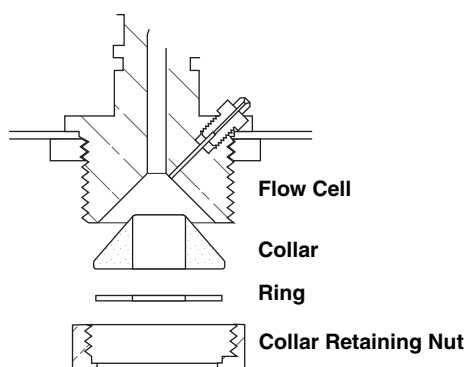

Figure 3-6 Install the collar and ring
3. Remove the collar retaining nut from the piercing mechanism Figure 3-6.